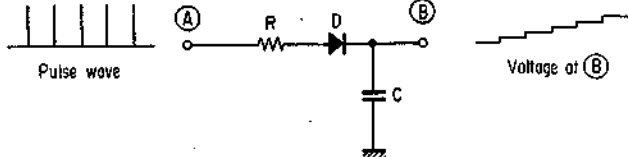

Fig. 1-2
The sawtooth wave produced by the oscillator is demultiplied into a pulse wave at the counter and then converted into the analog signal by the D/A converter. The circuit of this converter is as shown in Fig. 1-2. The pulses supplied to point (A) charges capacitor C step by step and gradually increases the